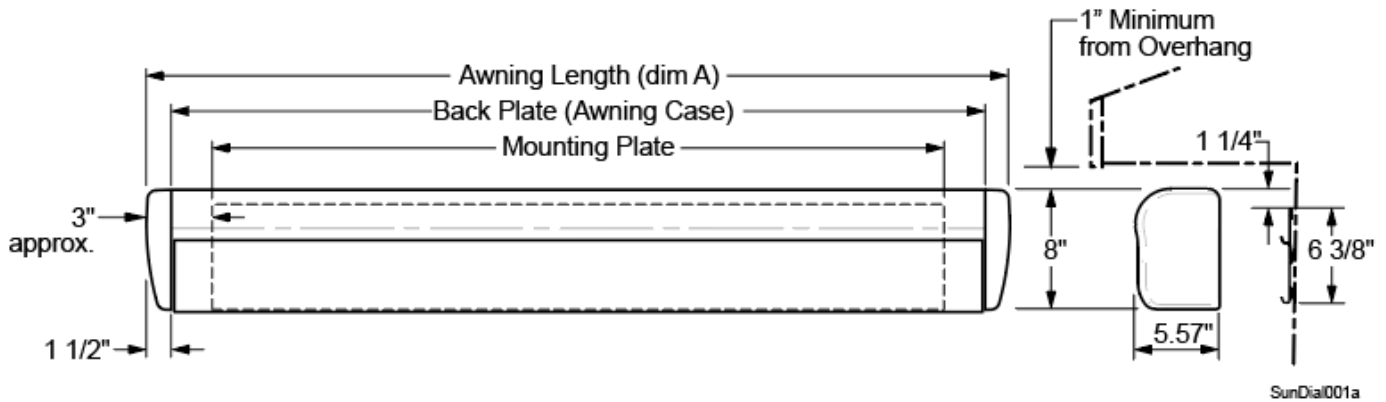

Figure 1
- General profile dimensions are shown in Figure 1
- The mounting plate is 6" shorter than the awning; 3" shorter than the back plate. (Reference Figure 1). Do not modify the length of the mounting plate.